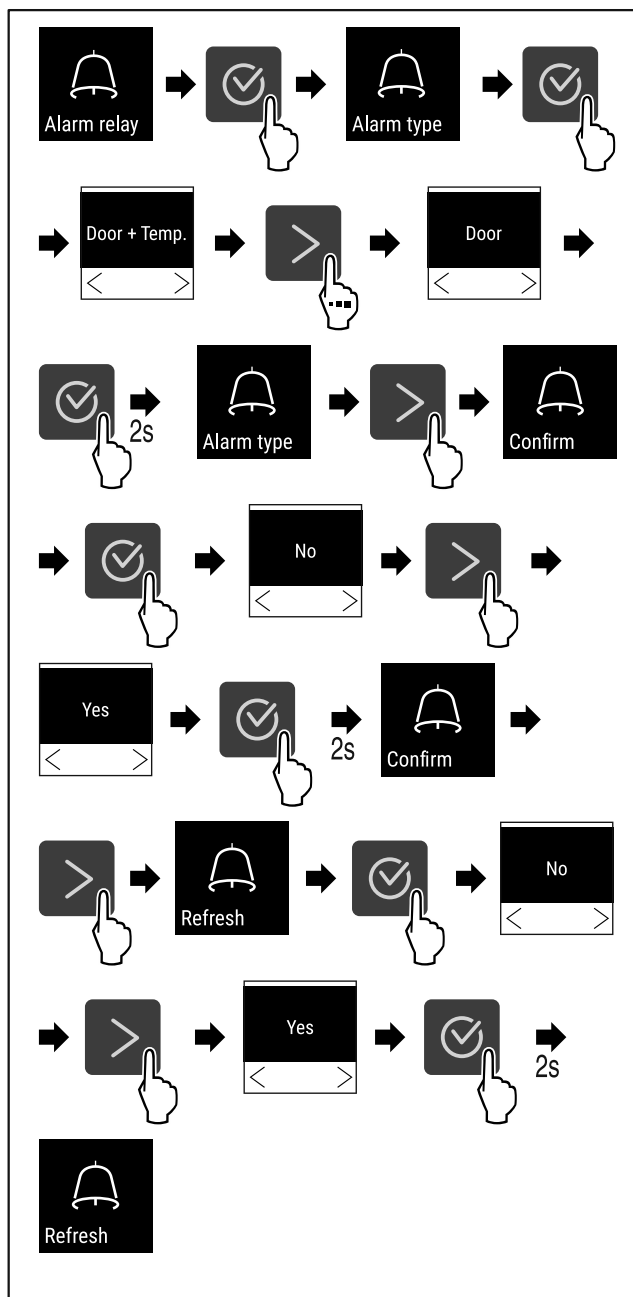

Fig. 109
- ▶ Complete steps (see Fig. 109).